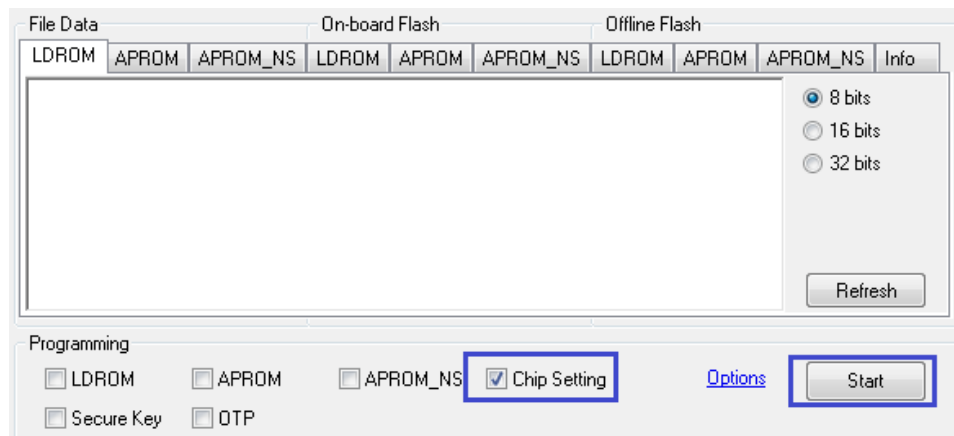

Figure 4-4 Start Programming
8. Select "Chip Setting" and click "Start" button to program XOM configure settings and enable XOM, as shown in Figure 4-4.